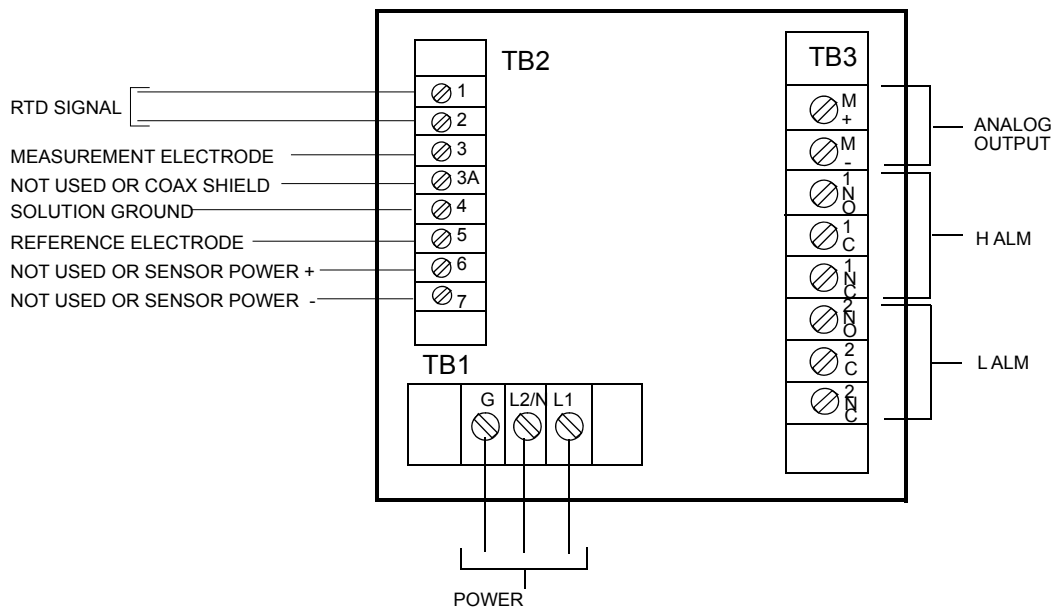

Figure 1. Plastic Enclosure Rear Panel Wiring for Power, Output, and Alarms
2. Connect H and L alarm wires to TB3 as shown in Figure 1.
3. Connect wires from external circuit for Analyzer measurement output to terminals TB3–1(+) and TB3–2(-). Refer to Figure 1.
5. Connect sensor wires to Analyzer terminal block TB2 as shown in Figure 1.
6. Connect power wires to terminal block TB1 as shown in Figure 1.